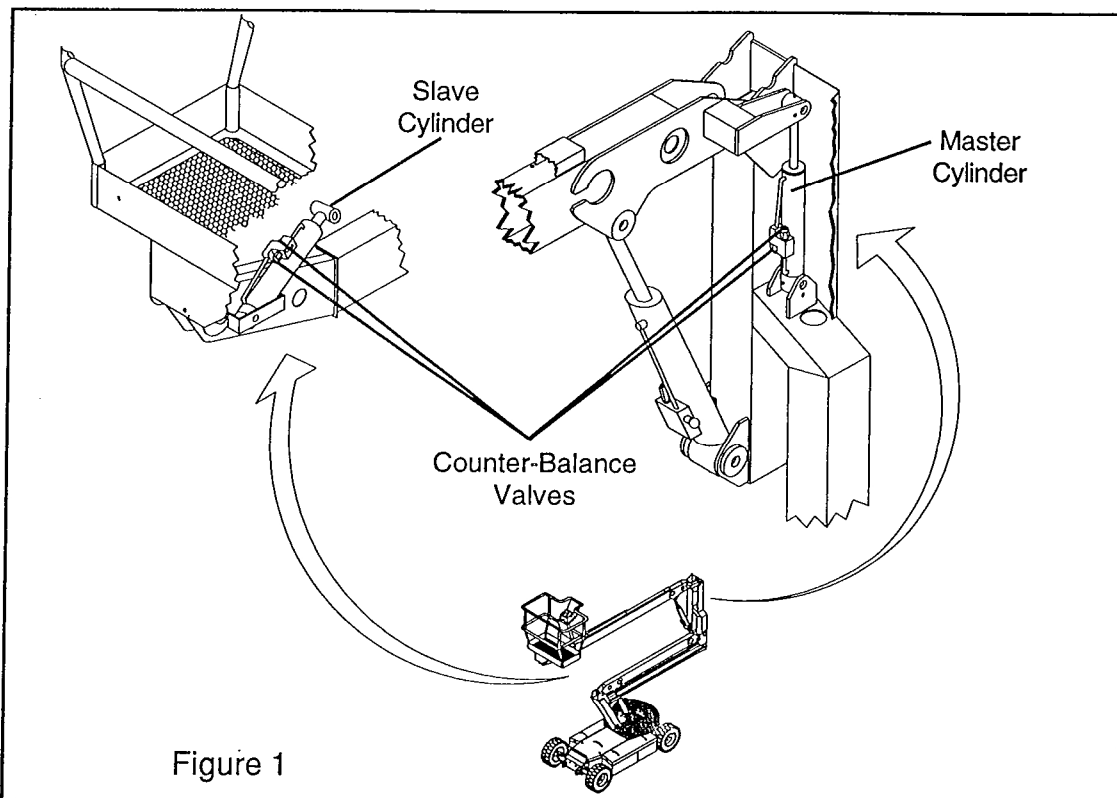

Figure 1
3. Using a 26 mm wrench remove the Counter-Balance Valves from the Master Leveling Cylinder (See figure 1). Fit the replacement Counter-Balance Valves - 1160 psi (500531-000) and torque to 33 Ft/Lbs (45 Nm). Note: Take care in aligning the replacement Counter-Balance Valves and DO NOT overtighten. This could result in damaged Counter-Balance Valve seals.
6. Using a 26 mm wrench remove the Counter-Balance Valves from the Slave Leveling Cylinder (See figure 1). Fit the replacement Counter-Balance Valves - 1088 psi (500530-000) and torque to 33 Ft/Lbs (45 Nm).